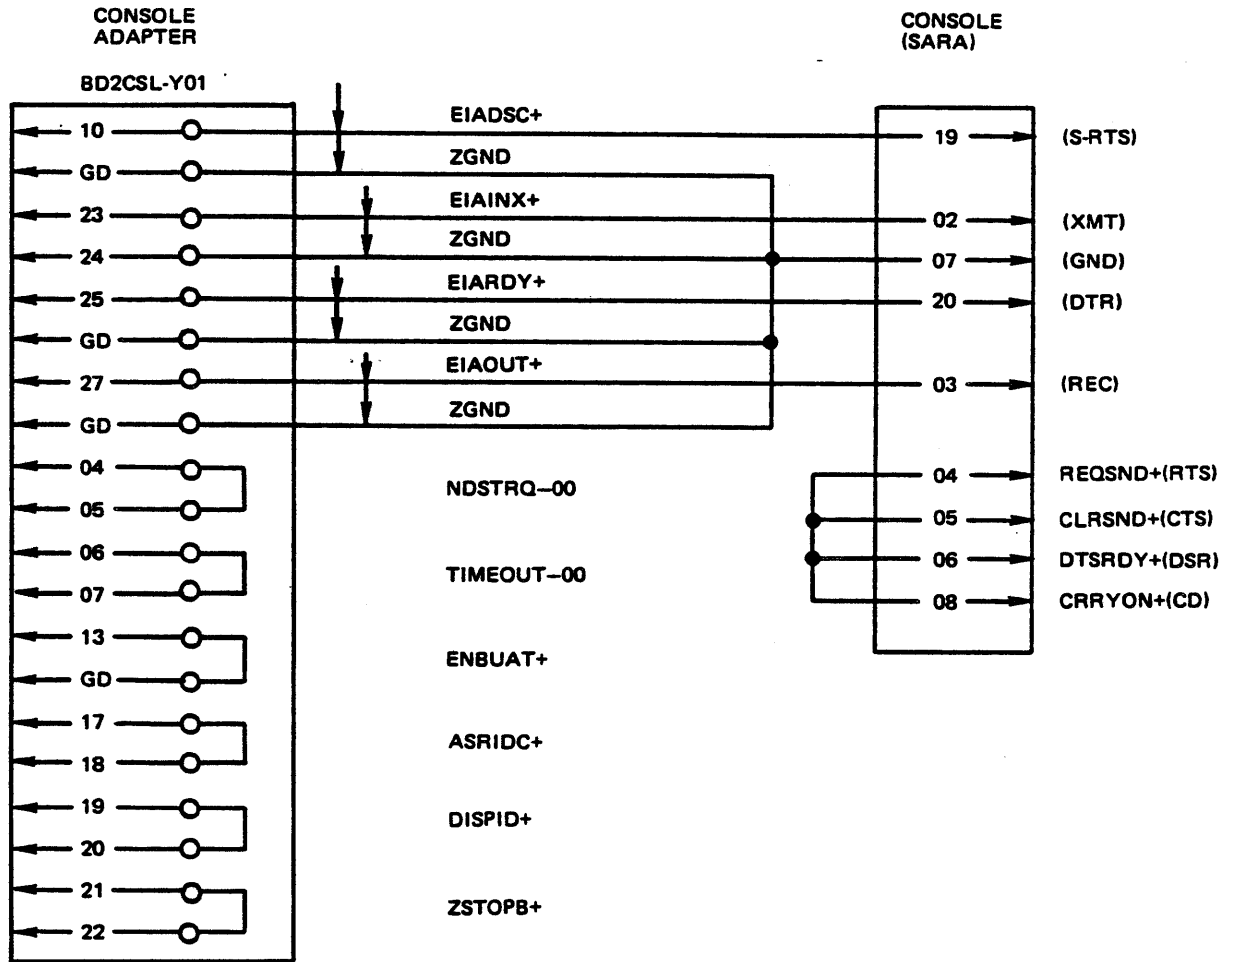

Figure 3-47 DCF6606 Console (SARA) Cable (60128478-013)
3. Locate the adapter cable (60128478-013) and plug it into the receptacle at the rear of the console. (See Figure 3-47 for the cable signal and wiring diagram.)